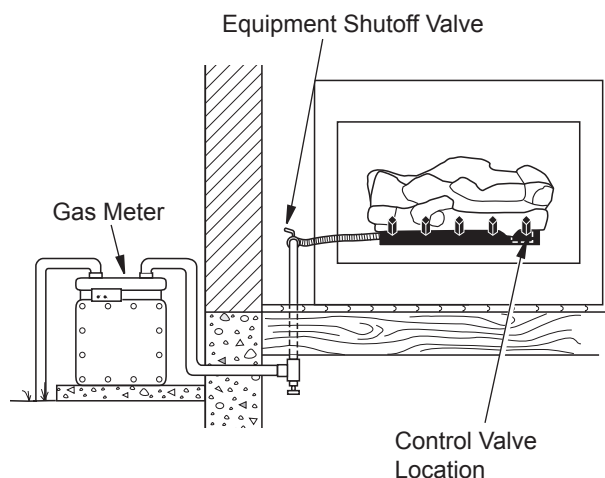

Figure 15 - Checking Gas Joints (Natural Gas Only)
3. Check all joints from gas meter to equipment shutoff valve for natural gas or propane/LP supply to equipment shutoff valve for propane/LP (see Figure 14 or Figure 15, page 10). Apply noncorrosive leak detection fluid to all joints. Bubbles forming show a leak.
4. Check all joints from gas meter to equipment shutoff valve for natural gas or propane/LP supply to equipment shutoff valve for propane/LP (see Figure 14, page 9 or Figure 15, page 10). Apply noncorrosive leak detection fluid to all joints. Bubbles forming show a leak.